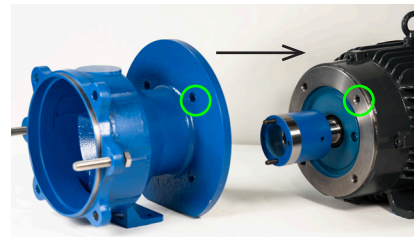

figure 3
8. Place the vapor protection o-ring (item 13) into the groove located on the flange face of the motor adapter (item 12). Use petroleum jelly or similar substance to help keep the o-ring in place. Slide the motor adapter over the shaft adapter and secure the motor face using hex head bolts and lock washers (items 30 & 31). See figure 3.